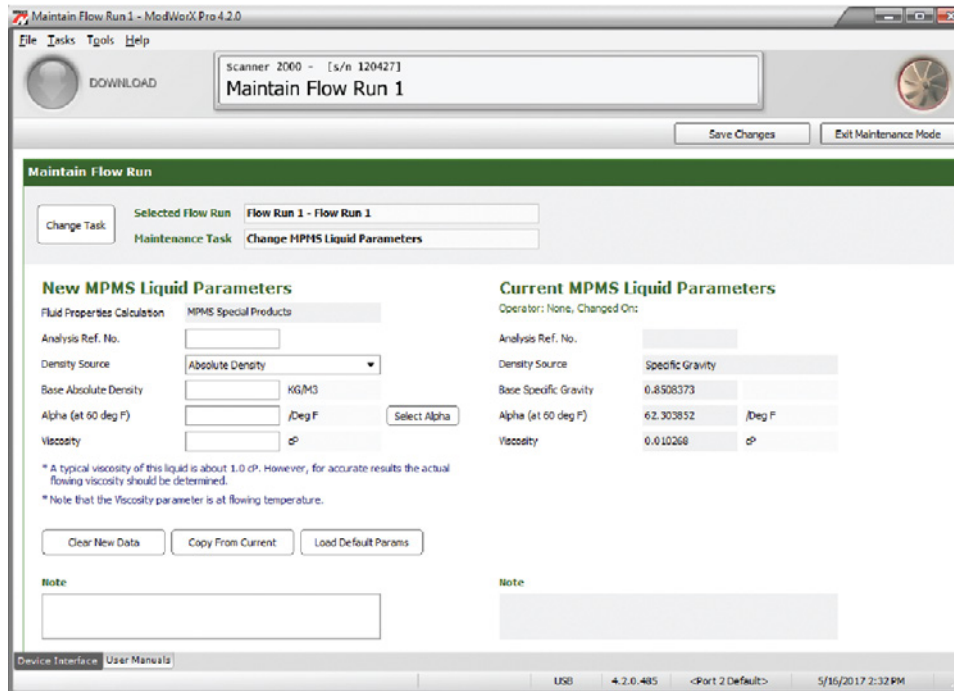

Figure 9.14
7. If Special Products is selected as the fluid type for the MPMS fluid properties calculation method, enter the fluid's expansion coefficient "alpha" (Figure 9.14, page 140) in accordance with MPMS Chapter 11.1. You may enter a numeric value, or click the **Select Alpha** button to select a predetermined alpha value for products such as ethanol and gasohol.